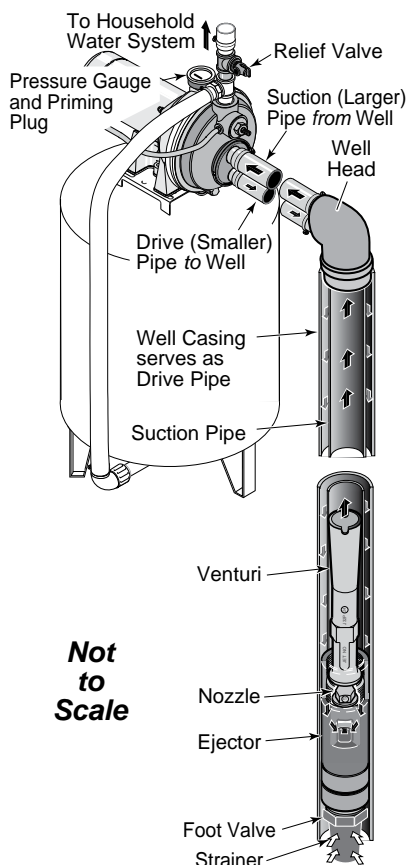

Figure 11: 2" (Single Pipe) Deep Well
2" Well (Figure 11)
3. Assemble ejector kit FP4840 (sold separately), well piping, and well head adapter according to the instructions provided with the ejector package. See Figure 11. Use galvanized drop pipe with turned couplings to allow proper flow. Follow the instructions included with the kit in order to match the nozzle and venturi to your well conditions.